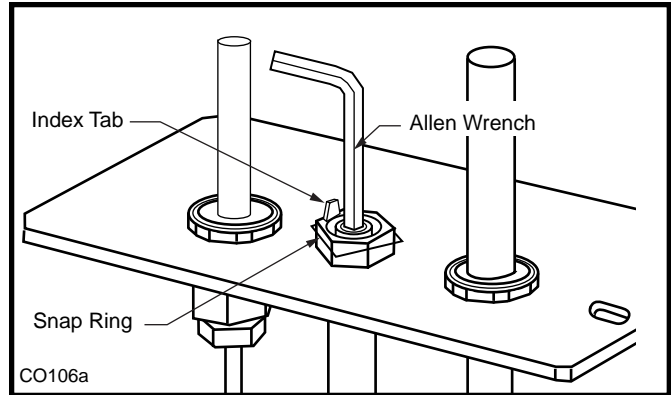

Fig. 6 Remove pilot orifice and replace with conversion orifice.
2. Remove pilot orifice with allen wrench. (Fig. 6)